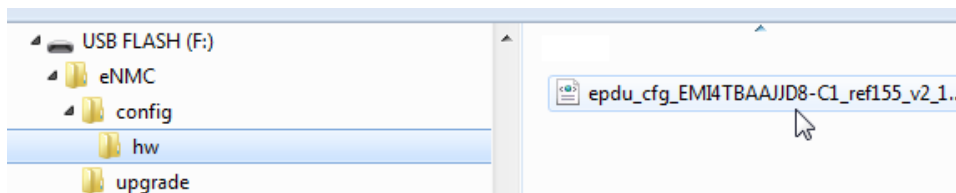

Figure 58. Verify HW File at USB Flash Drive Root
7. After the file is saved from the eNMC module in the eNMC/config/hw path, verify the USB flash disk contains the file in the eNMC/config/hw directory located at root of USB flash disk (see Figure 58).
1. Verify the USB flash disk contains eNMC/config/hw directory located at root of USB flash disk (see Figure 58).